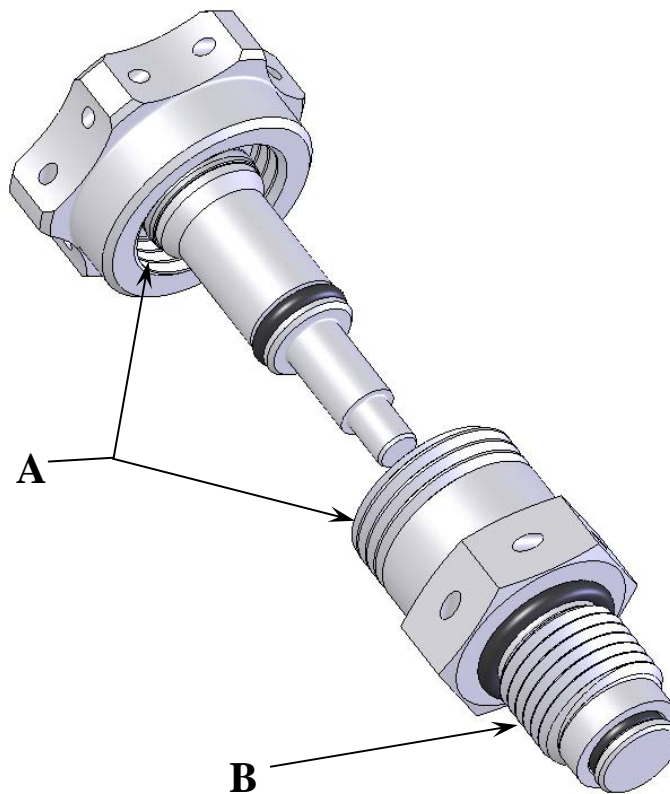

FIGURE 9
5.1 Inspection of threads in the Magnetic Plug and Valve (Figure 9)